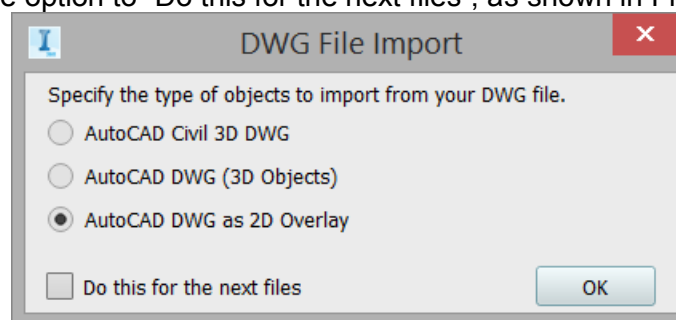

Figure 26
4. In the DWG File Import dialog box, select AutoCAD DWG as 2D Overlay, then remove the check from the option to “Do this for the next files”, as shown in Figure 26. Click **OK**.